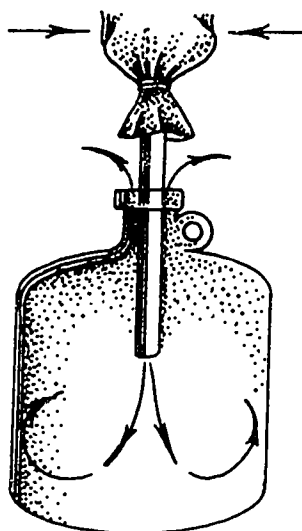

FIGURE 2: *Emptying the exhaust gases into the bottle.*
4. Insert the tubing that is connected to the plastic bag into the mouth of the bottle. Undo the tie and squeeze the contents of the bag into the bottle. (Since the bag contains a larger volume than the bottle, almost all of the air initially present in the bottle is blown out.) See Figure 2 below.